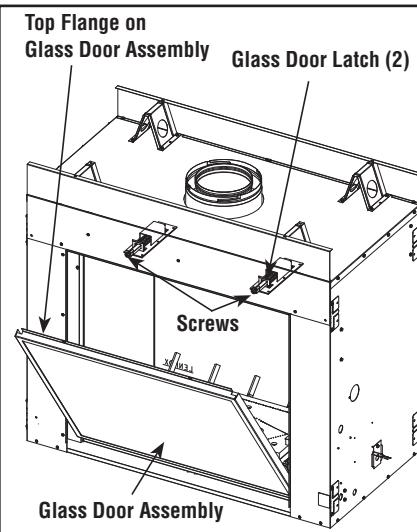

Figure 63
(see Figure 63)
- b) Position the door in front of the firebox opening, with the top of the door held away from the fireplace (see **Figure 63**).
- d) Using a #3 Phillips screwdriver, fasten the door frame to the door latches with the two (2) latch screws. The latches should pull forward to engage the door frame.